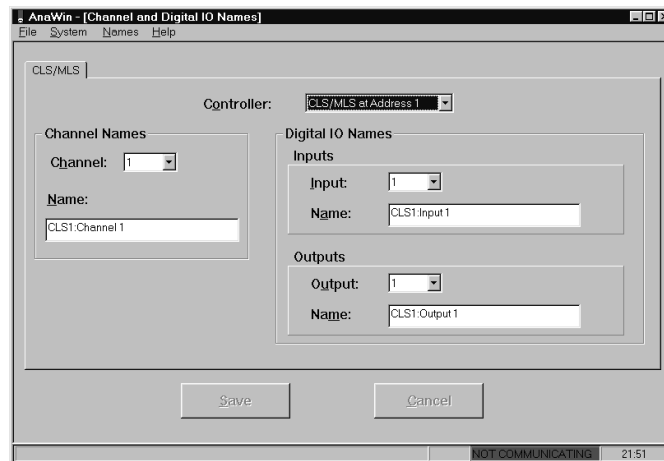

FIGURE 1-6 Channel and Digital IO Names Screen
- From the *Names* menu, select *Channels & DIO*, to display the Channel and Digital IO Names screen, shown in Figure 1-6. Use this screen to customize channel and digital input and output names.